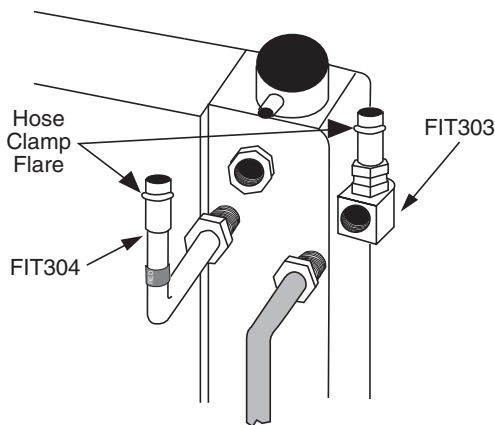

Figure 45. Insert Fittings
- Connect the male FIT304 fitting into the radiator, as shown in Figure 45.
- Connect the female FIT303 fitting onto the vehicle transmission cooling line as shown in Figure 45.
- Make certain the hose clamp is tightened on the inside of the hose clamp flare on each fitting (see Figure 45) to keep the hose from coming off.